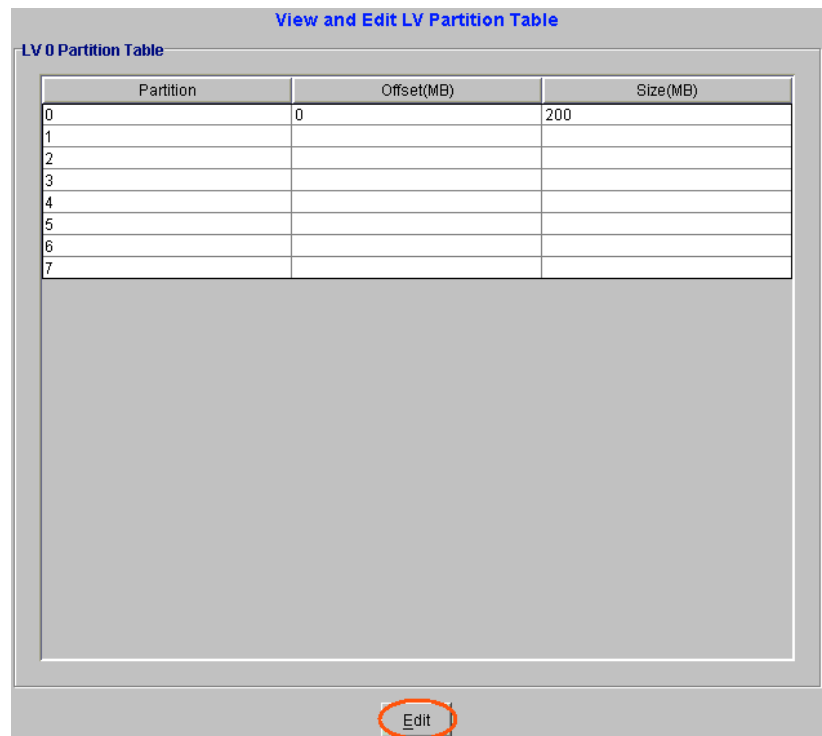

Figure 8-60: LV Partition Table
Step 3. To create a new partition, edit an existing one, or remove an existing partition, click the Edit button at the bottom of *Figure 8-60*. You will be prompted for a password, enter it and click OK.